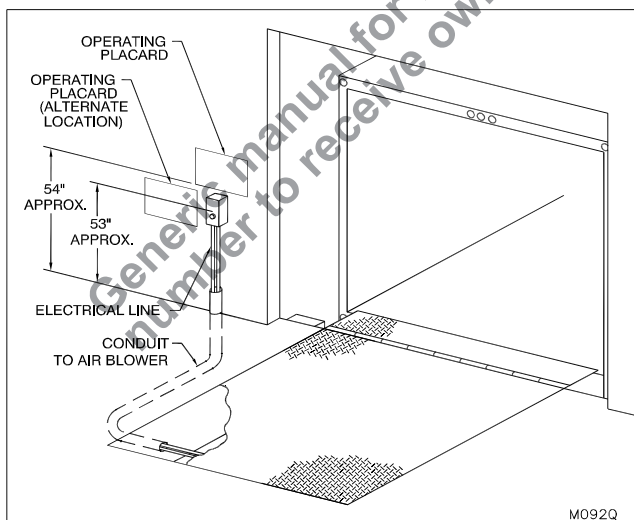

Figure 8: Control Panel & Placard Location
NOTE: The power cord & plug assembly supplied with the dock leveler is intended to be used for raising the deck for the initial installation only. Once the maintenance stand is in position, the supplied power cord & plug assembly is to be altered as follows. Permanent wiring must be installed immediately. Install the junction box with a standard 115/1/60 female receptacle in the dock leveler pit as per “Figure 7b: Power Cord & Junction Box” on page 11. Use the provided power cord running from the blower assembly to connect the blower to the junction box. Route the power cord so that it does not come in the path of any of the moving parts of the dock leveler. Once the power cord is properly routed to the junction box, cut any access off and reinstall the supplied 115/1/60 plug that was provided on the cord. Discard the access material that was cut off. Run the appropriate electrical wires from the control panel to the receptacle box through the conduit. (see “Figure 8: Control Panel & Placard Location” on page 13).
8. ☐ Mount the control panel and the supplied instruction placard in an appropriate location. ("Figure 8: Control Panel & Placard Location" on page 13).
NOTE: The power cord & plug assembly supplied with the dock leveler is intended to be used for raising the deck for the initial installation only. Once the maintenance stand is in position, the supplied power cord & plug assembly is to be altered as follows. Permanent wiring must be installed immediately. Install the junction box with a standard 115/1/60 female receptacle in the dock leveler pit as per "Figure 7b: Power Cord & Junction Box" on page 11. Use the provided power cord running from the blower assembly to connect the blower to the junction box. Route the power cord so that it does not come in the path of any of the moving parts of the dock leveler. Once the power cord is properly routed to the junction box, cut any access off and reinstall the supplied 115/1/60 plug that was provided on the cord. Discard the access material that was cut off. Run the appropriate electrical wires from the control panel to the receptacle box through the conduit. (see "Figure 8: Control Panel & Placard Location" on page 13).
22. ___ Mount the control panel and supplied instruction placard in an appropriate location. ("Figure 8: Control Panel & Placard Location" on page 13)